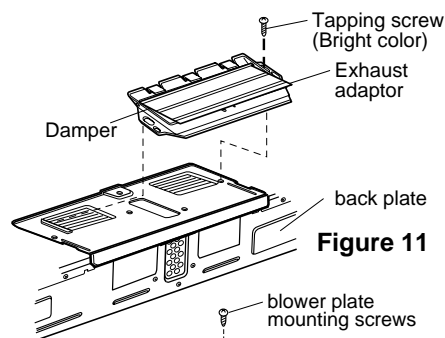

Figure 11
1. Insert one side of exhaust adaptor and attach with the one tapping screw on the other side of exhaust adaptor to the blower plate. See Figure 11. Go to STEP 4 on page 12.